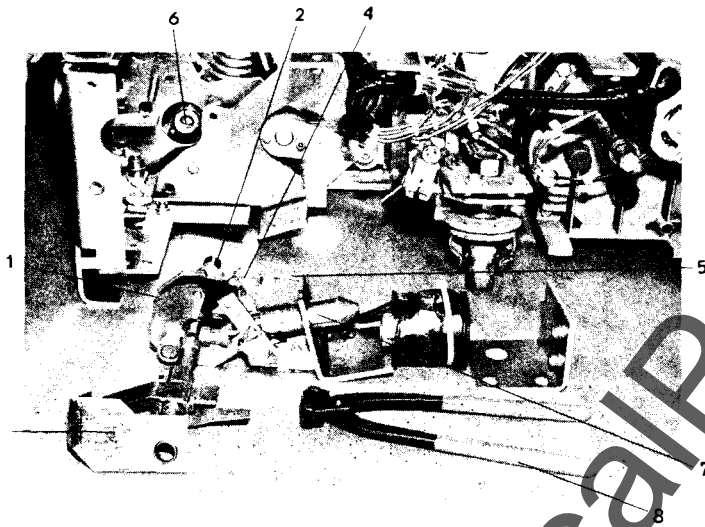

Fig. A14 Trip Shaft (Forward) Removal
Remove the front angle plate (paragraph A.5.3) and the phase one (left side facing breaker) interrupter assembly (paragraph A.5.7). With the breaker open and the closing spring charged and gagged, use end cutting nippers, (8) Fig. A14, to cut the clamp which retains the trip shaft drive pin. Remove the trip shaft drive pin and the trip coil (paragraph A.5.13). Observe the position of the trip shaft torsion spring, (2) Fig. A14 to assure that it is positioned the same way when the trip shaft assembly is replaced. Remove the two bolts which mount the bracket (3) Fig. A14, to the mechanism frame.